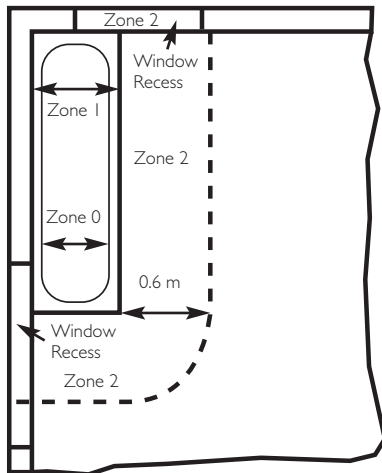

Fig. 11 In GB Only
1. If the boiler is fitted in a room containing a bath or shower and **NOT FITTED** with any optional integral timer or thermostat, it can be fitted in zone 2, (Figs. 11 & 12 show zone dimensions for a bathtub. For other examples refer to the Current I.E.E. Wiring Regulations) reference must be made to the relevant requirements. In GB this is the current I.E.E. Wiring Regulations and Building Regulations. In IE reference should be made to the current edition of I.S. 813 "Domestic Gas Installations" and the current ETCI rules.